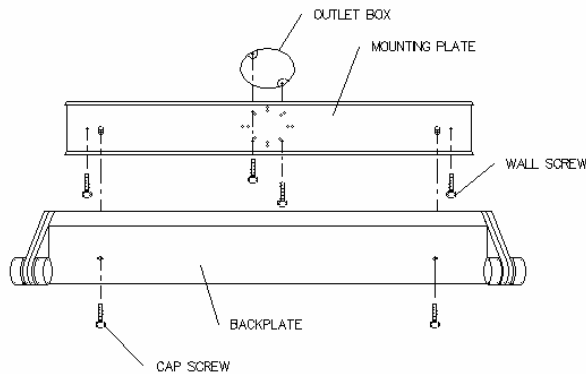

FIG 1
3. Using Allen wrench provided, secure backplate to mounting bracket with Allen head cap screws. (Figure 1)
1. Fasten mounting bracket to outlet box and wall using screws provided. Surface of wall must be mechanically sound for wall screws. (Figure 1)